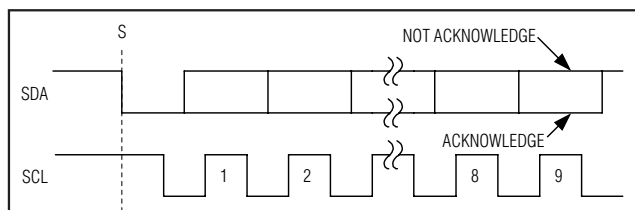

Figure 6. Acknowledge Bits
Data transfers are acknowledged with an acknowledge bit (A) or a not-acknowledge bit (\bar{A}). Both the master and the MAX1236-MAX1239 (slave) generate acknowledge bits. To generate an acknowledge, the receiving device must pull SDA low before the rising edge of the acknowledge-related clock pulse (ninth pulse) and keep it low during the high period of the clock pulse (Figure 6). To generate a not-acknowledge, the receiver allows SDA to be pulled high before the rising edge of the acknowledge-related clock pulse and leaves SDA high during the high period of the clock pulse. Monitoring the acknowledge bits allows for detection of unsuccessful data transfers. An unsuccessful data transfer happens if a receiving device is busy or if a system fault has occurred. In the event of an unsuccessful data transfer, the bus master should reattempt communication at a later time.